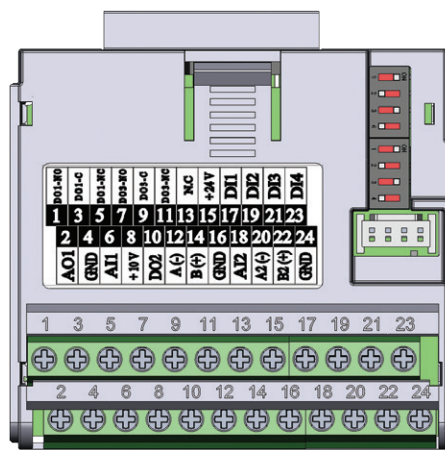

Figure 18.4: Plug-in module CFW500-CRS485
The CFW500-CRS485 plug-in module has Serial (1) interface through RS-485 port at terminals 12 (A-) and 14 (B+), as well as the Serial (2) interface through another RS-485 port at terminals 20 (A2+) and 22 (B2+), see Figure 18.4 on page 18-1.